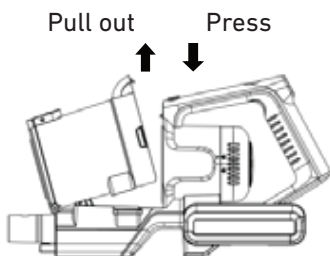

Fig. 8
1. Click the dust container release button, located on the front of the handle just above the dust container, and pull the dust container out. (Fig. 8)